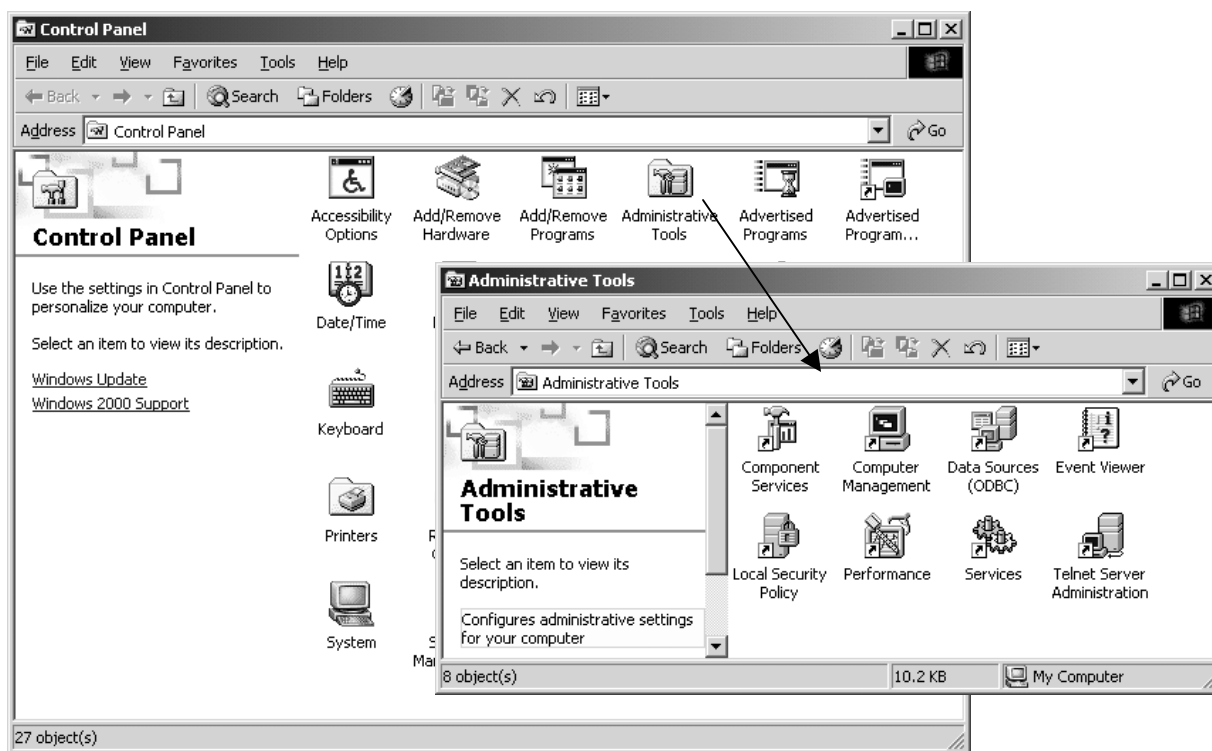

Figure 5-5: The Print Server Control Panel and Administrative Tools Screens
3. Click the Control Panel option. The control panel window will open (Figure 5-5).